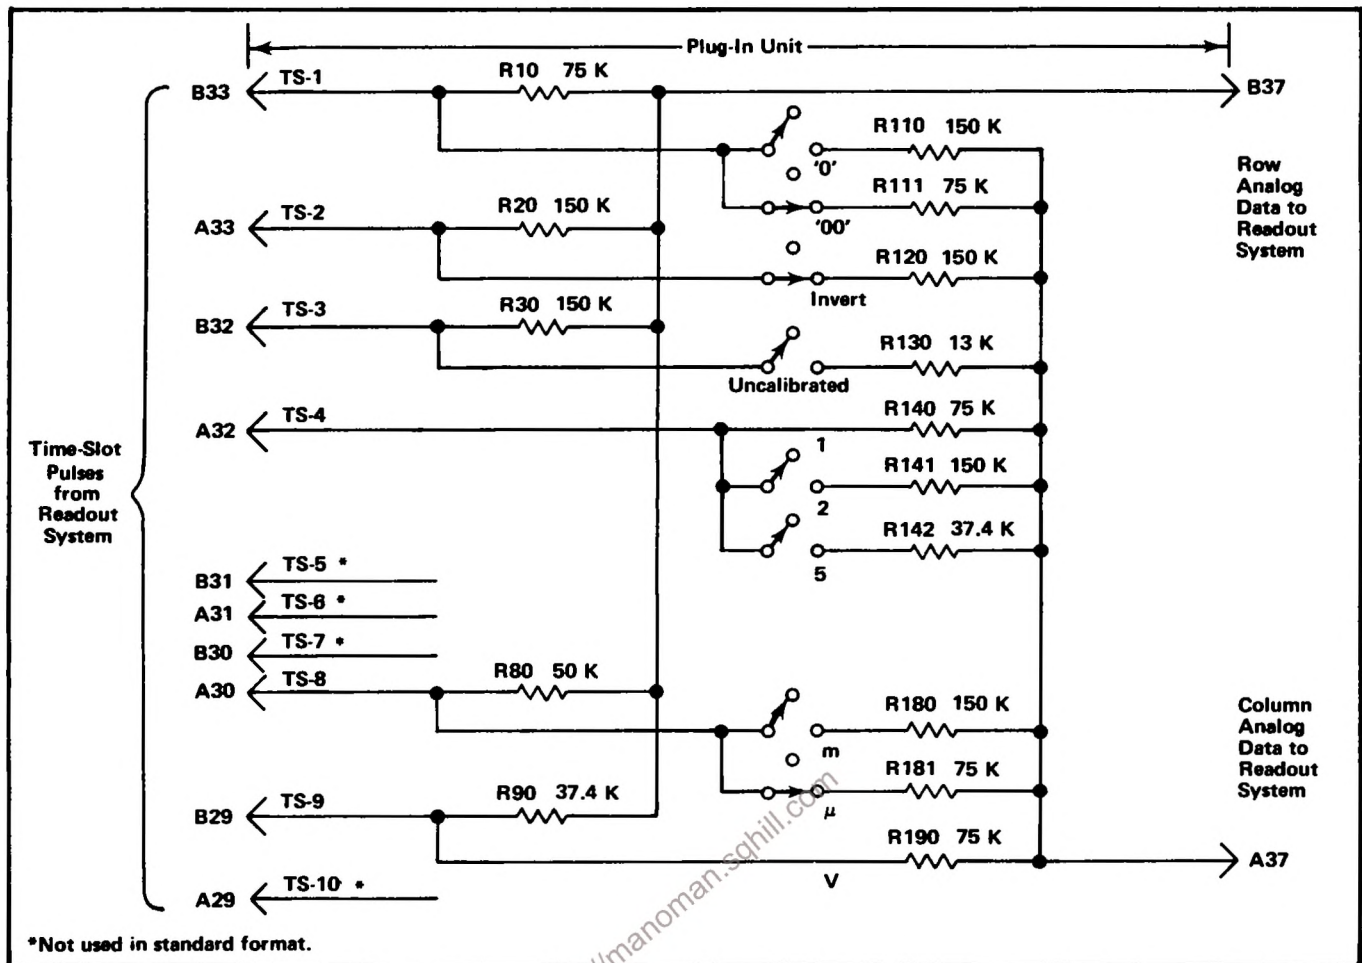
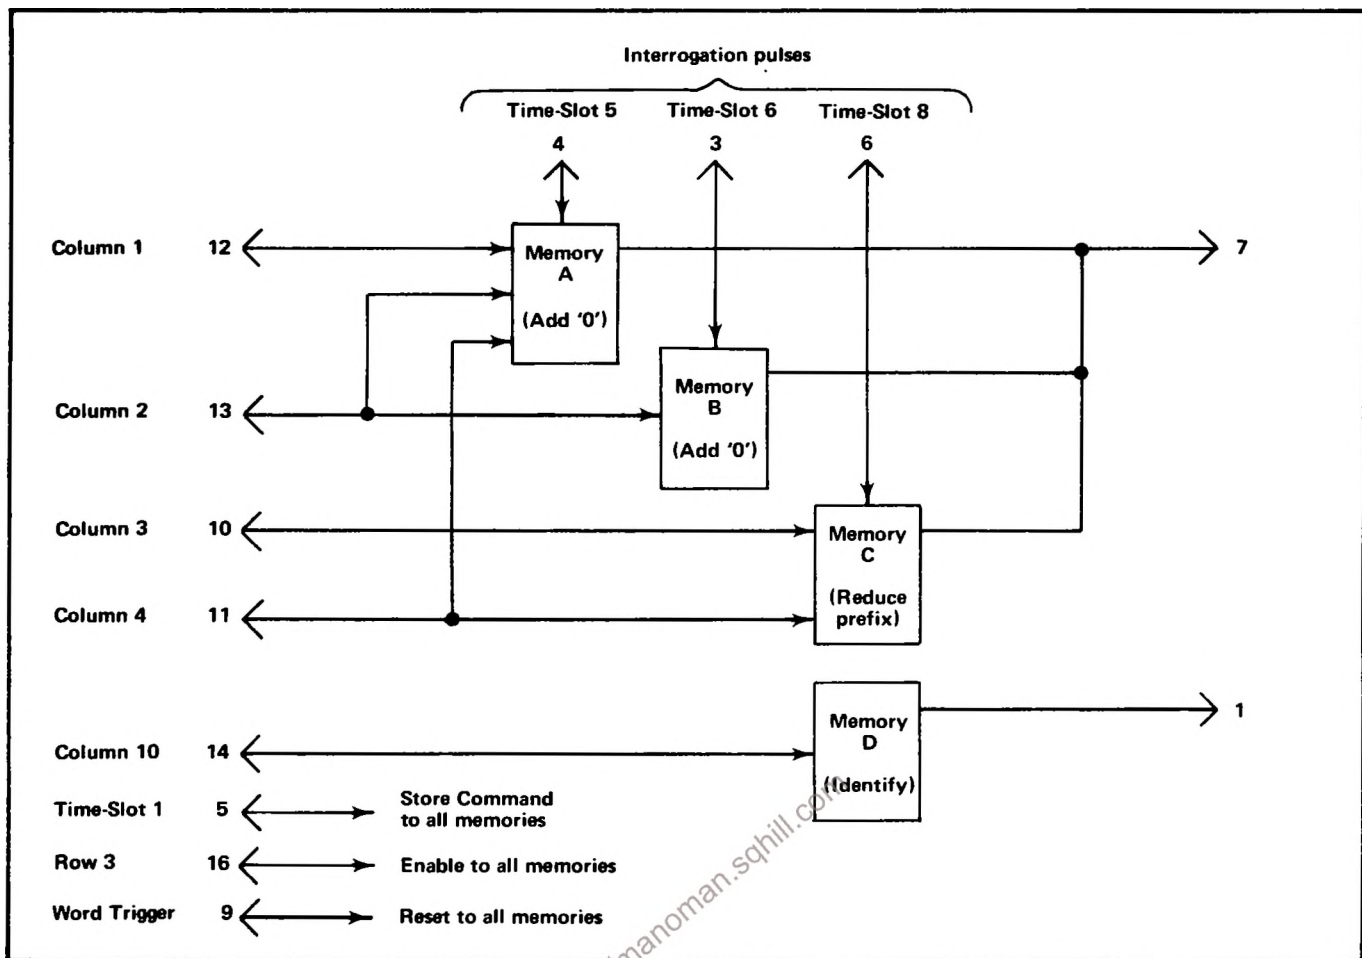
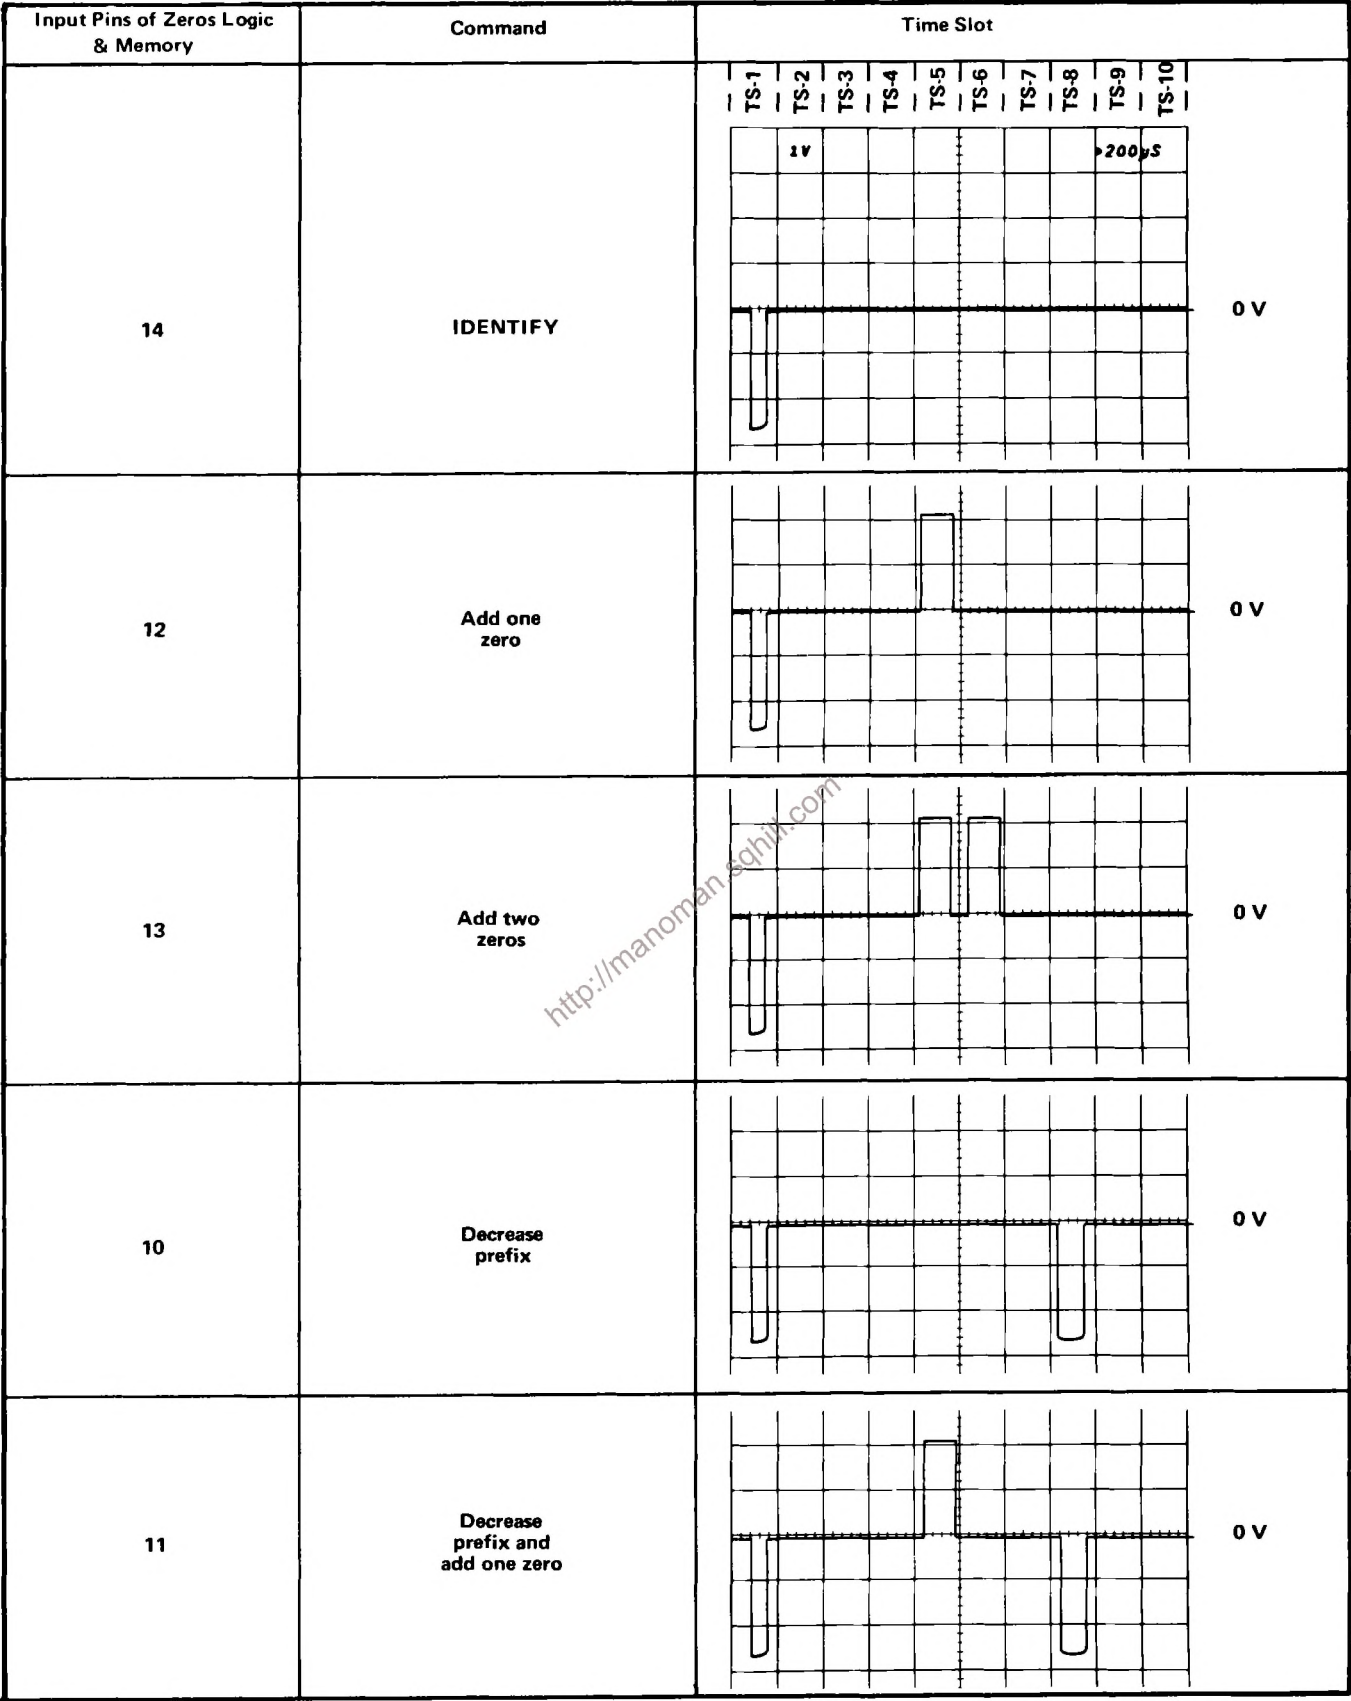

Fig. 4-32. Typical encoding scheme for voltage-sensing amplifier plug-in unit. Coding shown for deflection factor of 100 microvolts.
Fig. 4-34. Block representation of memory sequence in U2232.
Fig. 4-35. Typical output waveforms for Zeros Logic and Memory stage operation (at pin 7 of U2232).
Data is conveyed from the plug-in units to the Readout System in the form of an analog code having up to 11 current levels (from zero to one milliamperes in 100 microampere steps). The characters which can be selected by the encoded data are shown on the Character Selection Matrix (see Fig. 4-25). Each character requires two currents to define it; these currents are identified as the column current and the row current which correspond to the column and row of the matrix. The column and row data is encoded by resistive programming in the plug-in units. Fig. 4-32 shows a typical encoding scheme for a voltage-sensing amplifier plug-in unit. Notice that the 10 time-slot (TS) pulses produced by the Time-Slot Counter stage are connected to the plug-in unit. However, time-slots 5, 6, 7, and 10 are not used by the plug-in unit to encode data when using the Standard Readout Format (see Table 4-2 for Standard Readout Format). The amplitude of the time-slot pulses is exactly  $-15$  volts as determined by the Timer stage. Therefore, the resultant output current from the plug-in units can be accurately controlled by the programming resistors in the plug-in units.
For example, in Fig. 4-32, resistors R10 through R90 control the row analog data which is connected back to the Readout System. These resistors are of fixed value and define the format in which the information will be presented by the Readout System. Fig. 4-33A shows an idealized output current waveform of row analog data which results from the 10 time-slot pulses. Each of the steps of current shown in these waveforms corresponds to 100 microamperes of current. The row numbers on the left-hand side of the waveform correspond to the rows in the Character Selection Matrix shown in Fig. 4-35. The row analog data is connected back to the Readout System via terminal B37 of the plug-in interface.
The Column analog data is defined by resistors R110 through R190. The program resistors are connected to the time-slot lines by switch closures to encode the desired data. The data as encoded by the circuit shown in Fig. 4-32 indicates a 100 microvolt sensitivity with the display inverted and calibrated vertical deflection factors. This results in the idealized output current waveforms shown in Fig. 4-33B at the column analog data output, terminal A37 of the plug-in interface. Resistor R111, connected between time-slot 1 and the column analog data output, encodes two units of current during time-slot 1. Referring to the
connectors of vertical plug-in units. A special coding ring around the input connector of the plug-in unit senses the attenuation ratio of the probe (with readout-coded probes only). The probe contains a resistor which results in additional column current. For example, if a 10X attenuator probe is connected to a plug-in with the coding for 100 microvolts as shown in Fig. 4-32, an additional unit of current is added to the column analog data during time-slot 1. Since two units of current were encoded by R111 (see Fig. 4-32), this additional current results in a total of three units of column analog current during this time-slot. Referring to the Character Selection Matrix, three units of column current along with the two units of row current encoded by R10 indicates that the prefix should be reduced. Since this instruction occurs in the same time-slot which previously indicated that two zeros should be added to the display and only one instruction can be encoded during a time-slot, the zeros do not appear in the display. The CRT readout will now be changed to 1 mV (readout) program produced by plug-in same as for previous example.
The Zeros Logic and Memory stage U2232 stores data encoded by the plug-in units to provide zeros-adding and prefix-shifting logic for the Readout System. The Strobe pulse at pin 15 goes positive when the data has stabilized and can be inspected. This activates the Zeros Logic and Memory stage so it can store the encoded data. A block representation of the memory sequence is shown in Fig. 4-34. Typical output waveforms for the five possible input conditions that can occur are shown in Fig. 4-35. When time-slot 1 occurs, a store command is given to all of the